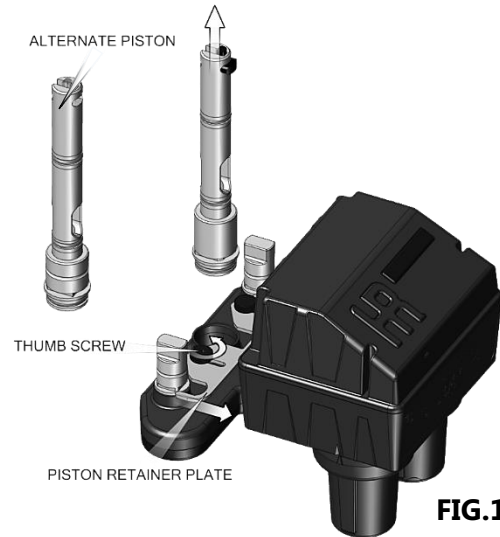

FIG.1.6
2.) By loosening both thumb screws, then sliding the piston retainer plate forward as illustrated, the pistons can easily be removed and replaced **FIG.1.6**.